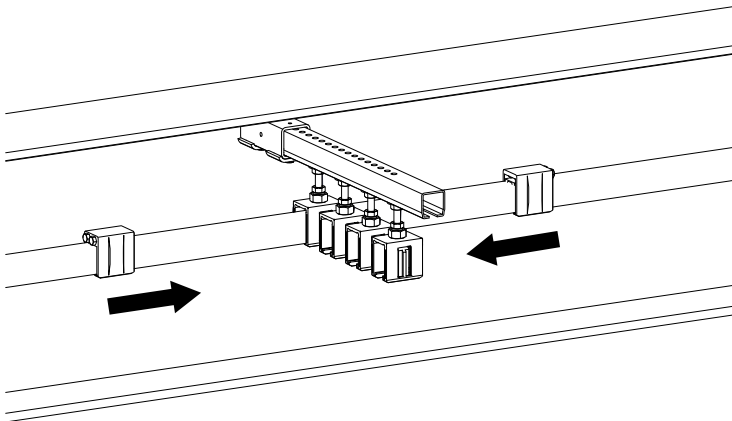

Fig. 89: Slide anchor clamps 0813 onto the conductor rail
- Slide the anchor clamps onto the clipped-in conductor rail section on the right and left (see Fig. 89). When sliding on the anchor clamps, ensure that the two side screws on the anchor clamps point away from the hanger clamp.